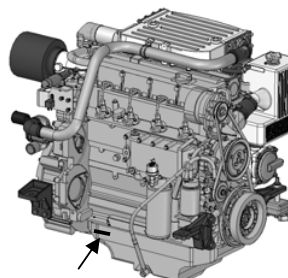

Fig. 1.2
- See the Fig. 1.2 to read the engine identification (see fig. 1.1, detail of the plaque).